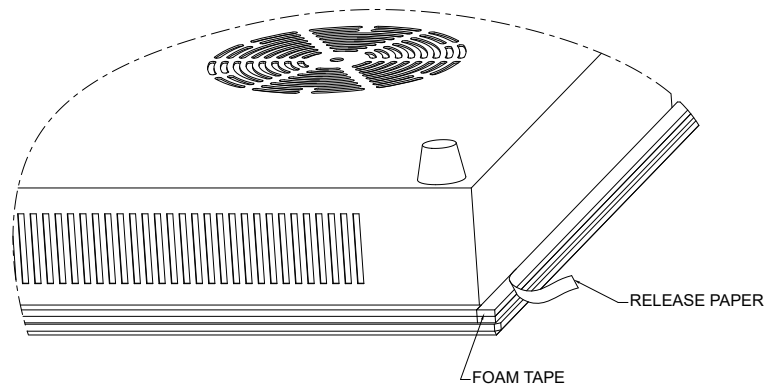

Figure 1
4. Carefully remove the release paper from the foam on the bottom side of the cooktop. **See Figure 1.**